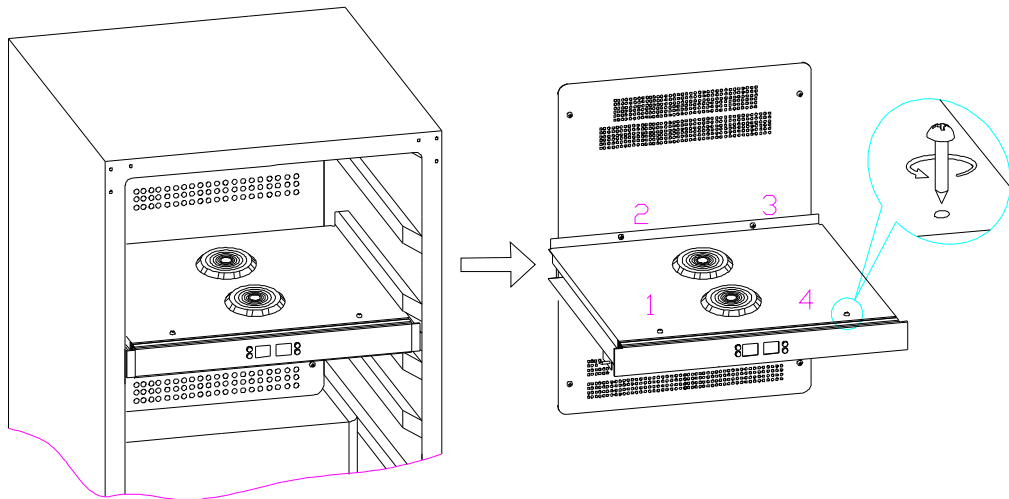
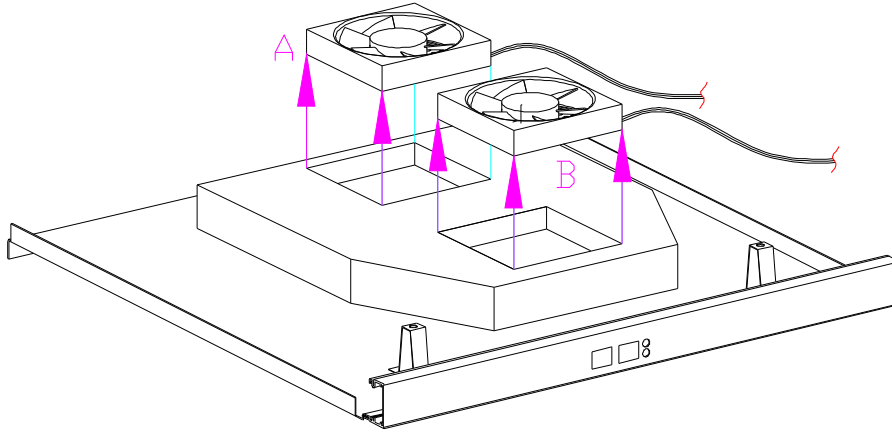

Fig.13
Fig.25
③The divide structure electrical removal.(in this version PCB board is divide into 2 blocks, one is power PCB,the other is control PCB,
a. Remove the shelves then remove the fixing screws (1,2,3,4) (Fig.13)
4>, Regarding divide version,taking the up cover cover of the middle air duct board(Fig.13),then take the fan (A、B) up-ward as the arrowhead direction,and replace it. (Fig.25)